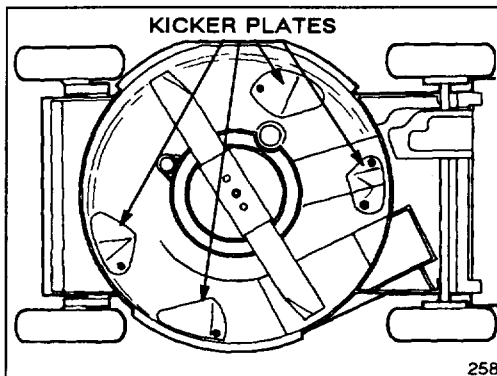

Figure 8
B. Four special "kicker plates" positioned on the underside of the mower deck in strategic positions (Fig. 8)